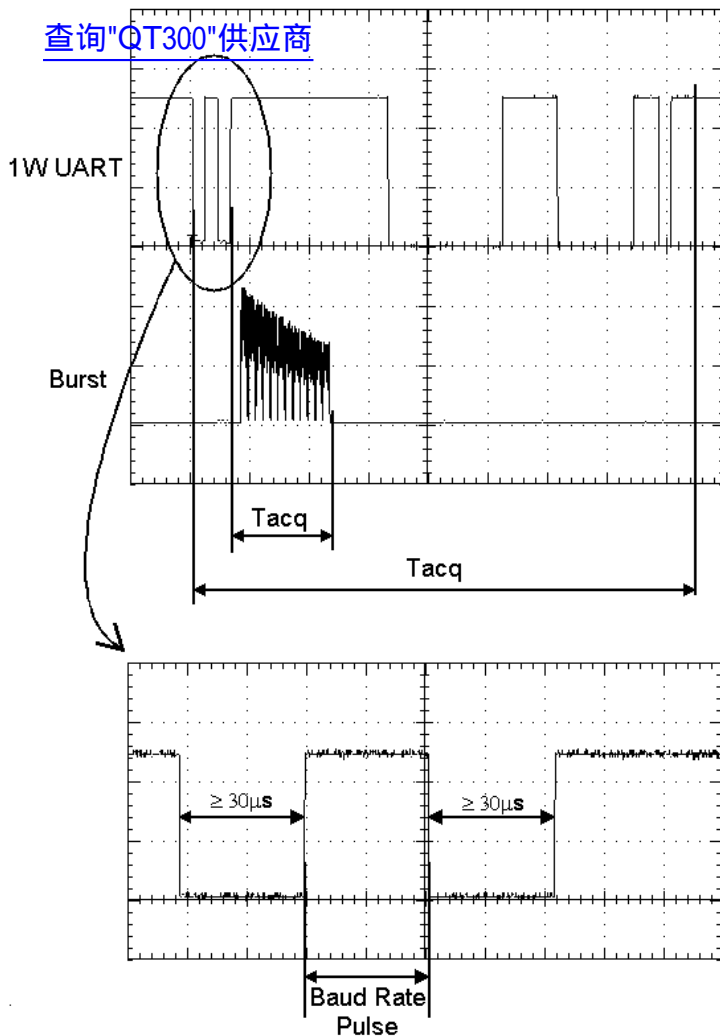

Figure 4-1 UART and Trigger Pulse Signal.
- 1) Host generates pulse on 1W pin; pulse width must match Baud rate (bit width) of desired return rate. This actually sets the Baud rate, so it can vary from one acquire to another. See Section 4.3 and Figure 4-1.
The part wakes from low power mode when the first negative edge is detected on the 1W pin (Figure 4-1, bottom). The negative pulse must be at least 30 μ s wide.